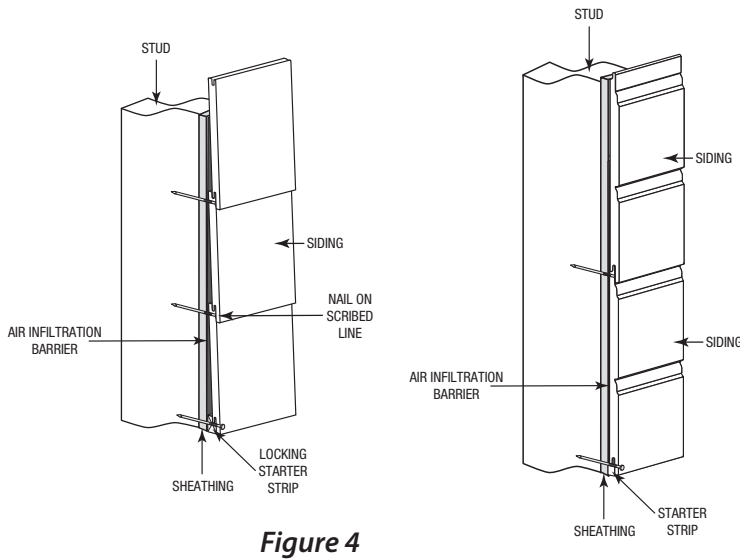

Figure 4
- Follow product specific nailing pattern (see Fig. 4).
- Sure Lock requires one nail per lap piece on all studs 16 in. o.c. Make sure each nail is placed precisely on the scored nailing guideline. This ensures that the nail head is properly concealed and does not penetrate the interlocking grooves. The top of the nail must be flush to ensure ease of interlock during application (see Fig. 4).